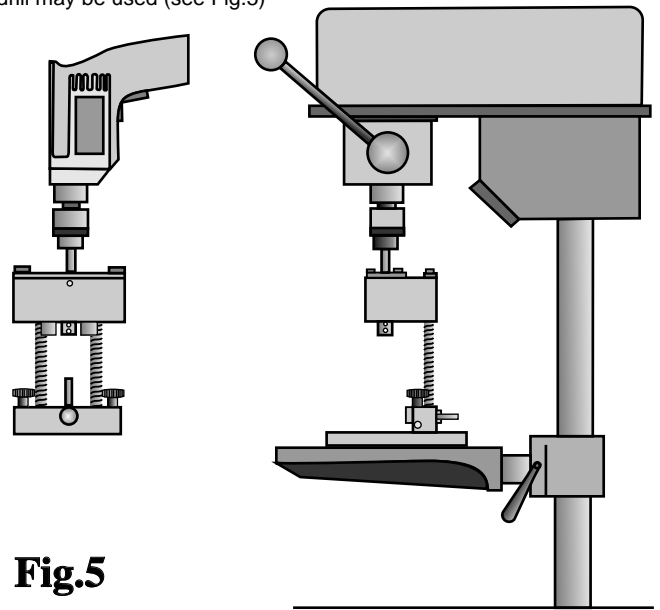

Fig.5
When the equipment has been set up, all that is required is an electric drill (recommended power 0.75 kW) to be mounted on the spindle (1) or alternatively, a pillar drill may be used (see Fig.5)